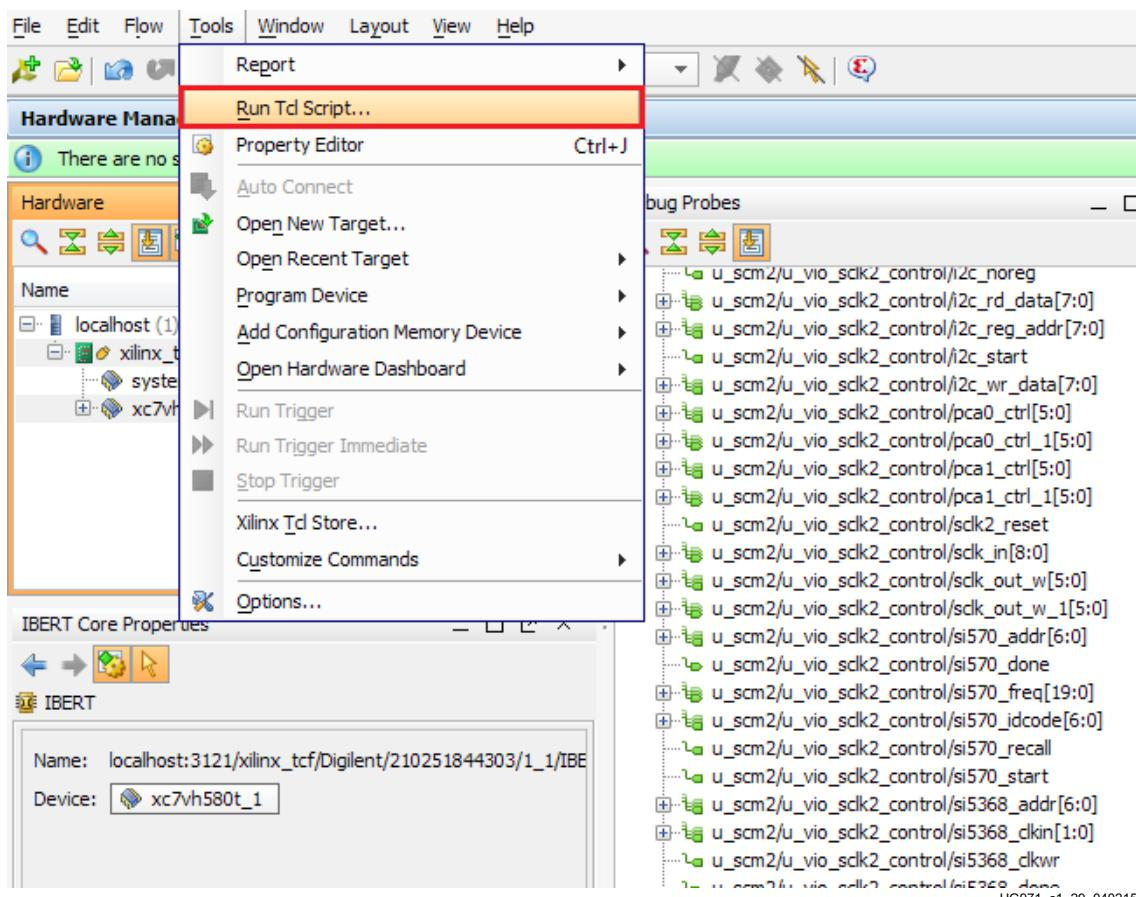

Figure 1-29: Run TCL Script
3. Vivado Design Suite reports that the XC7VH580T is programmed and displays the SuperClock-2 VIO core and the IBERT core. To configure the SuperClock-2 module, click **Tools > Run Tcl Script** (Figure 1-29). In the Run Script window, navigate to the `setup_scm2_255_00.tcl` script in the extracted files and click **OK**.